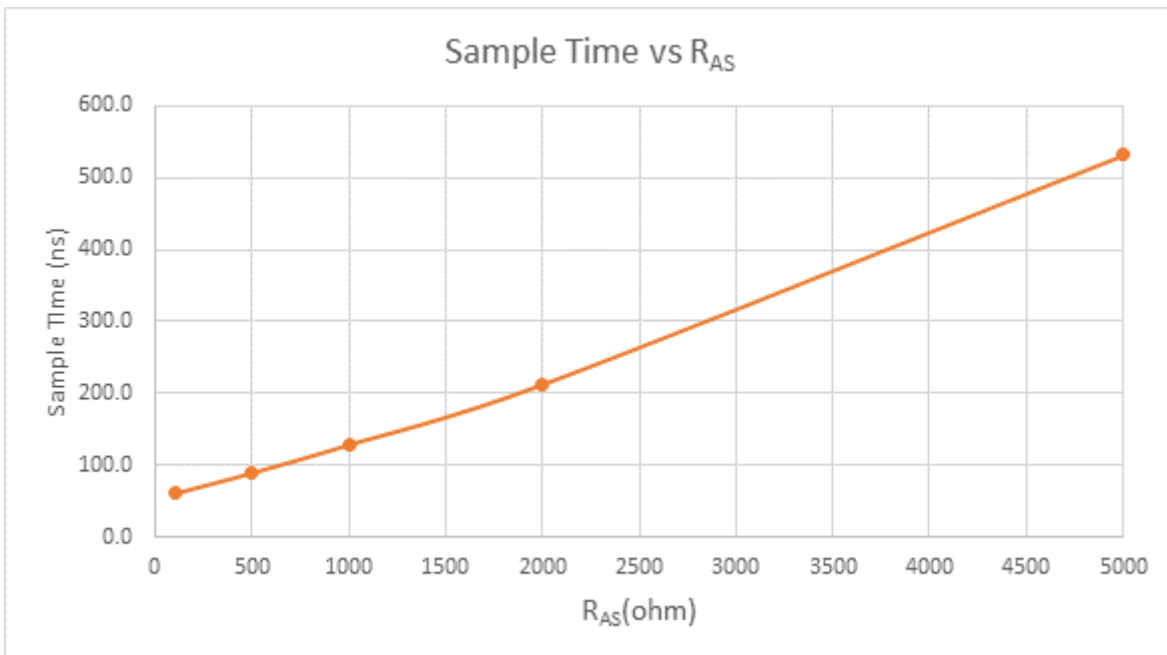

Figure 33. Sample time VS. R_{AS}
⁴ See Figure 33, "Sample time VS. RAS".
- ⁴ See Figure 33, "Sample time VS. R_{AS}".